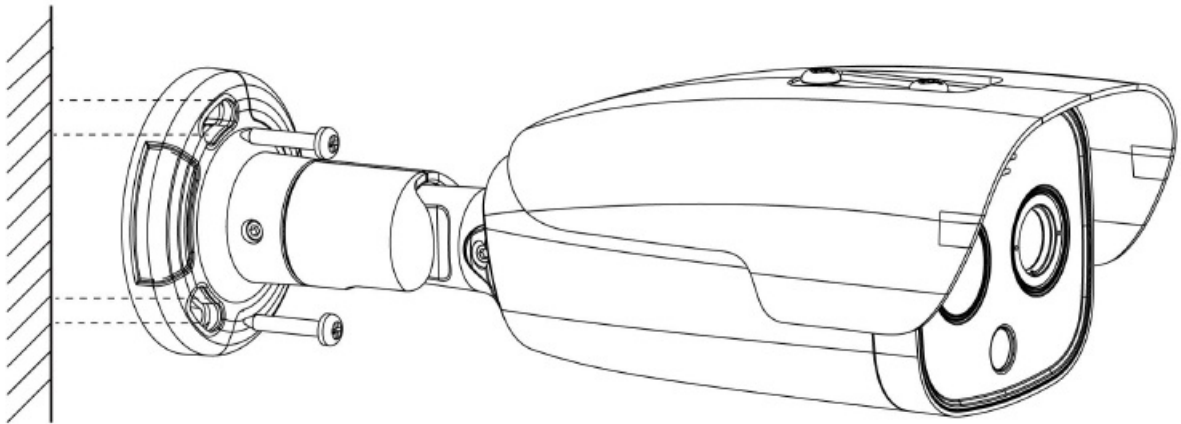
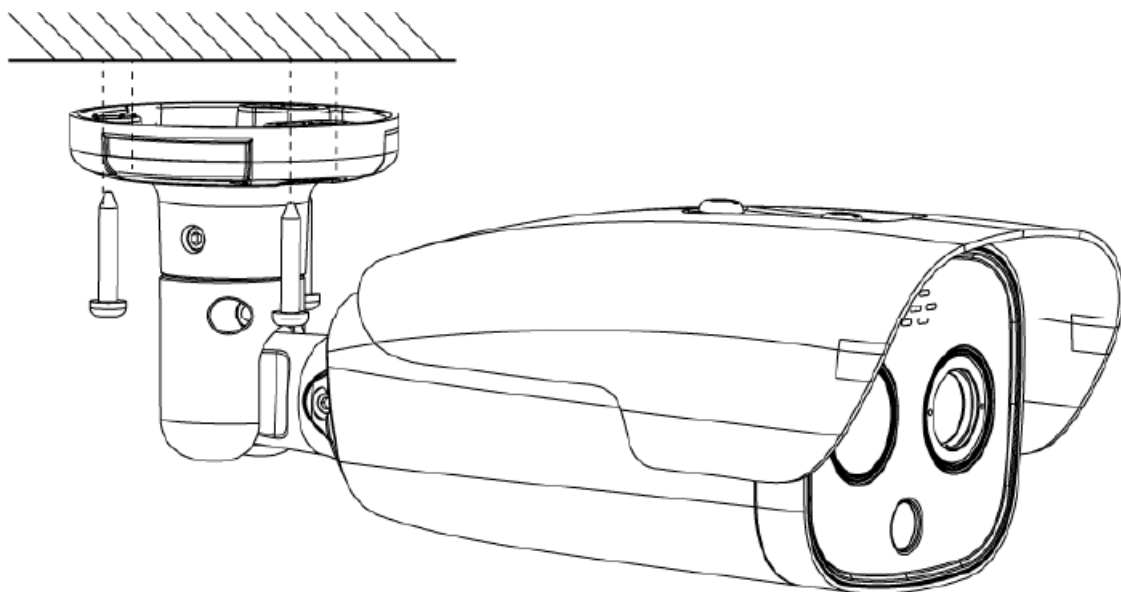

Figure 2.5 Wall Mounting
Figure 2.6 Ceiling Mounting
- Pass the tail wire of the camera through the A hole, then use the attached self-tapping screws to fix the camera to the wall. The wall mount is shown in Figure 2.5, and the ceiling mount is shown in Figure 2.6.